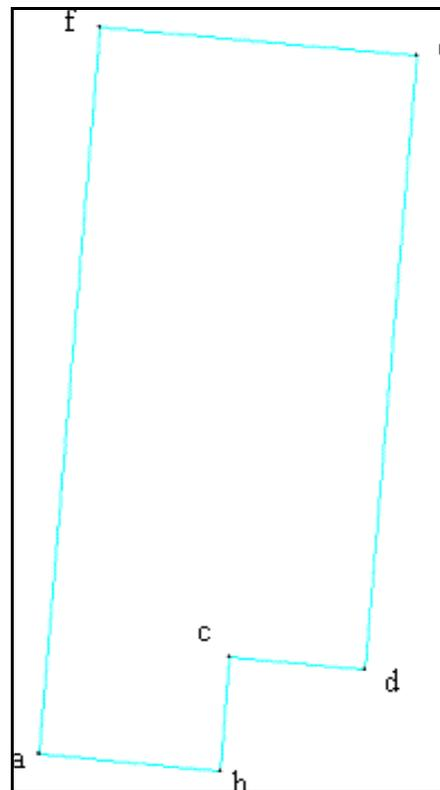

Figure 1.13 Lot 20
7. Stakeout additional station and offset values as necessary. The station and offset values for the building on lot 20 are shown in the following table and in Figure 1.13.